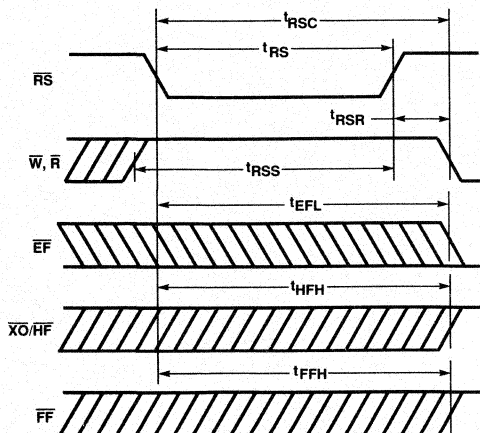

Figure 2. Reset Timing
Upon power up, the FIFO must be initialized with a Reset cycle. (See Figure 2.) The states of XI and FL are used during the reset cycle to determine the FIFO's mode of operation, as shown in Tables 1 and 2. For a valid reset cycle to occur, both the Read ( $\bar{R}$ ) and Write ( $\bar{W}$ ) signals must be HIGH  $t_{RSS}$  prior to and  $t_{RSR}$  after the rising edge of Reset ( $\bar{RS}$ ). The reset cycle initializes the FIFO to an empty condition, signified by the Empty Flag ( $\bar{EF}$ ) being LOW, active, and both the Half-Full (HF) and Full Flag (FF) being HIGH, inactive.